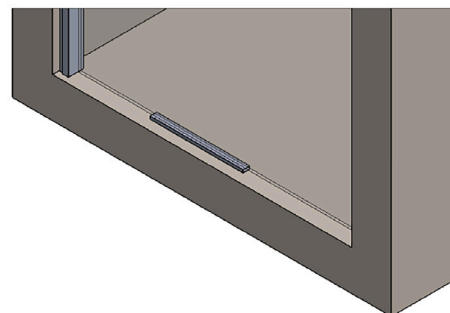

FIGURE 8
Using two people (1 person inside, 1 outside), slide Hinge Jamb (B) over Wall Jamb (A) carefully until fully compressed. (See Figure 8) Wood Block should still be under the Glass Door (K).